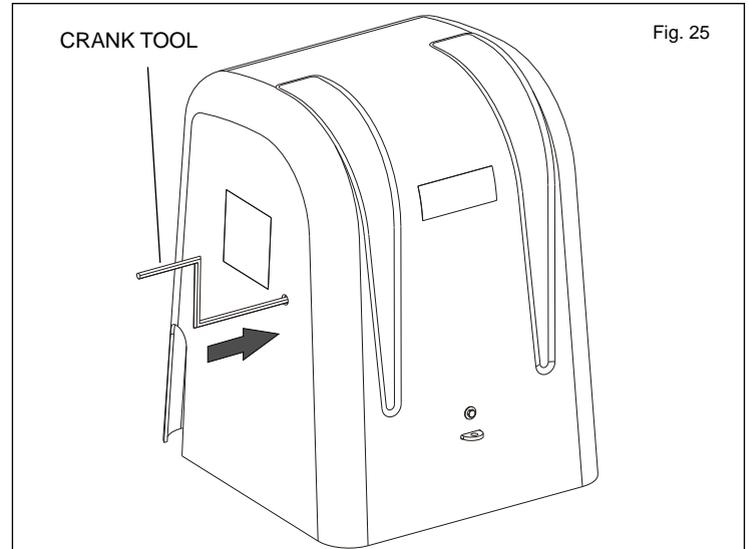

Fig. 25
2. Push the crank tool in hole (fig. 25 - 26). Turn the crank to open the gate.